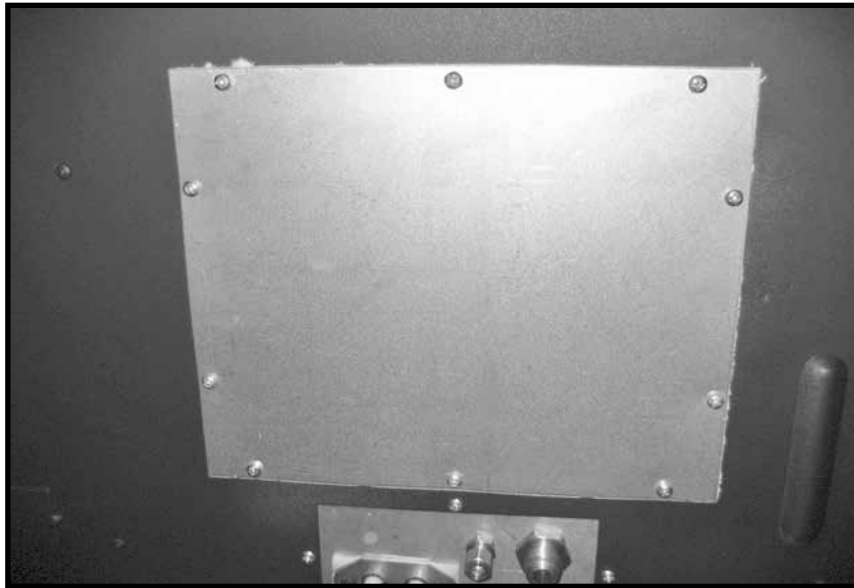

Figure 5: Remove access panel.
4. Remove access cover to the valve control center from the right side of the fire box (Figure 5).